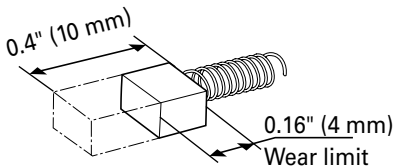

Fig. 39
3. Inspecting the carbon brushes (Fig. 39)